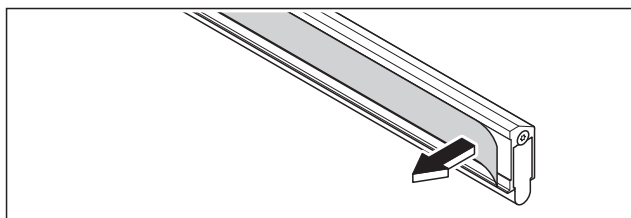

Fig. 13 Completely remove the protective film from the adhesive tape
3. Completely remove the protective film from the adhesive tape (Fig. 13).